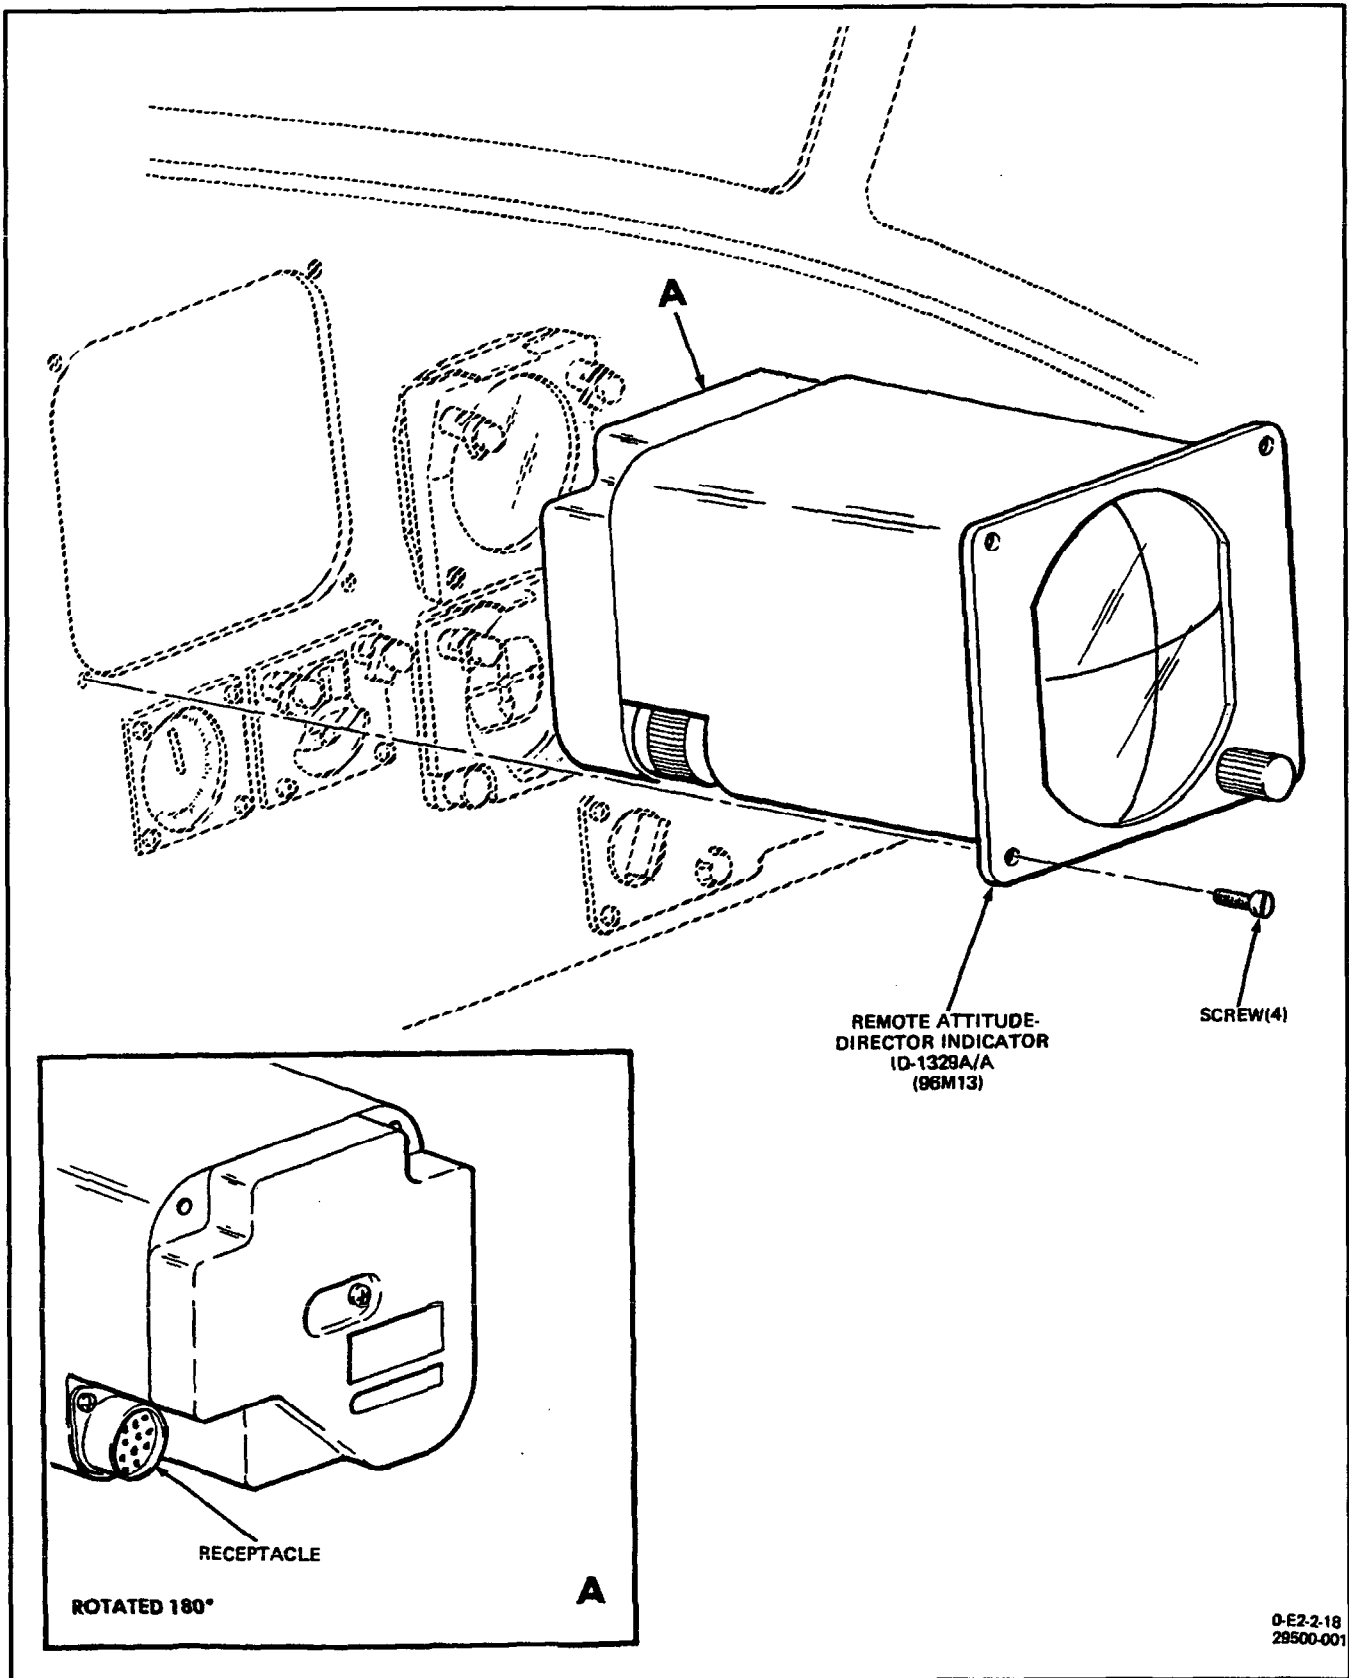

Figure 1. Removal and Installation of Remote Attitude-Director Indicator ID-1329A/A
2. The Remote Attitude-Director Indicator ID-1329A/A (hereinafter referred to as the indicator) is used in conjunction with aircraft subsystems. One indicator (95M23) is located in the pilot's instrument panel (WP003 00, figure 1, item 1C) and one indicator (96M13) is located in the copilot's instrument panel (WP003 00, figure 1, item 8C).
**3. REMOVAL.** (Figure 1.)
**4. INSTALLATION.** (Figure 1.)**WARNING**